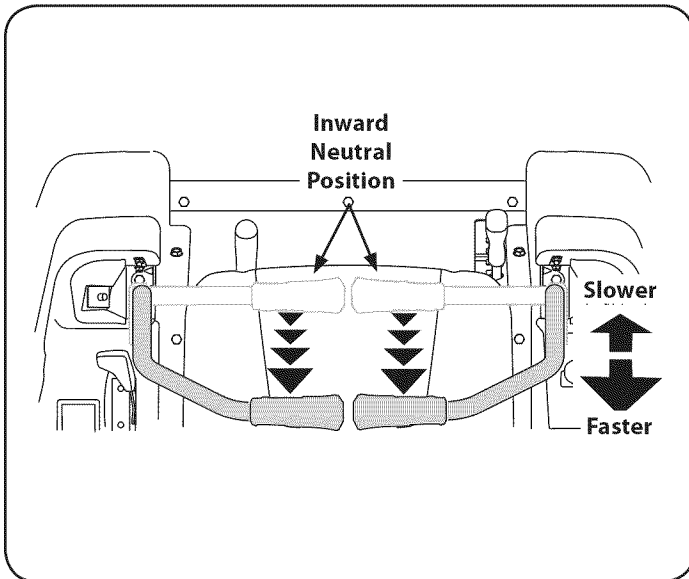

Figure 17
1. Slowly and evenly move both drive control levers rearward. The riding mower will start to move in the reverse direction. See Figure 17.